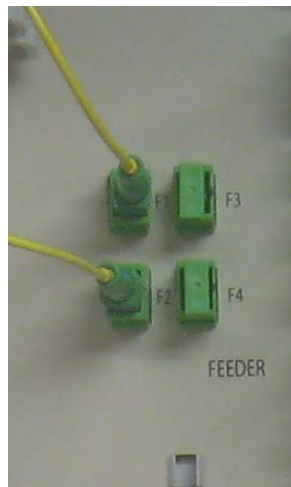

Figure 4
10. – Install each of the splitter single fiber cables into the F1- F4 upper left SC type adapters in sequential order to the corresponding Direct Connect splitter. (Refer to Figure 4)